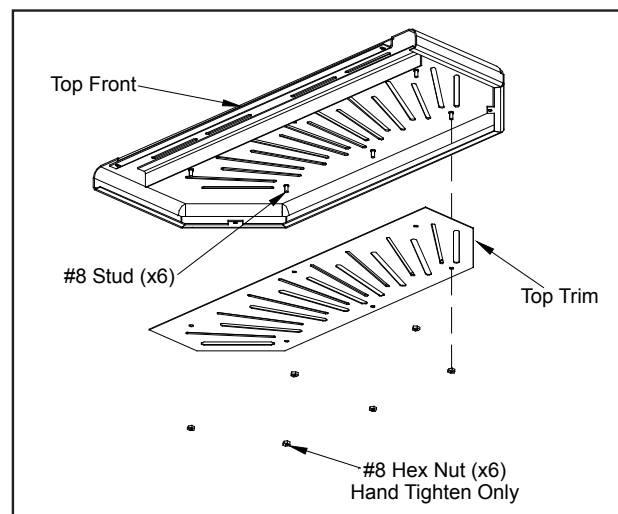

Figure 43: Top front with top tri
Place the new trim on its corresponding studs (see Figure 43) and finger tighten the six (6) #8 hex nuts. Replace top front on top of the stove, remembering to hook the two (2) front tabs under the corresponding tabs on the stove. Replace the two (2) screws on the top under the hopper lid then close lid. Replace the two (2) screws under the corner lips above the door. Align top then tighten screws.